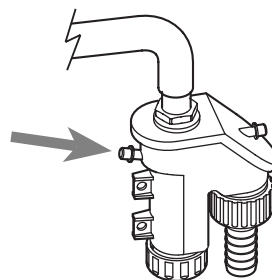

Fig. 20
4.5 MAINTENANCE (fig. 20)
During maintenance operations, it is important to verify that the condensate trap contains water (this check is particularly important if the generator has not been used for extended periods of time). If necessary, the condensate trap can be filled using the filling point provided (fig. 20).